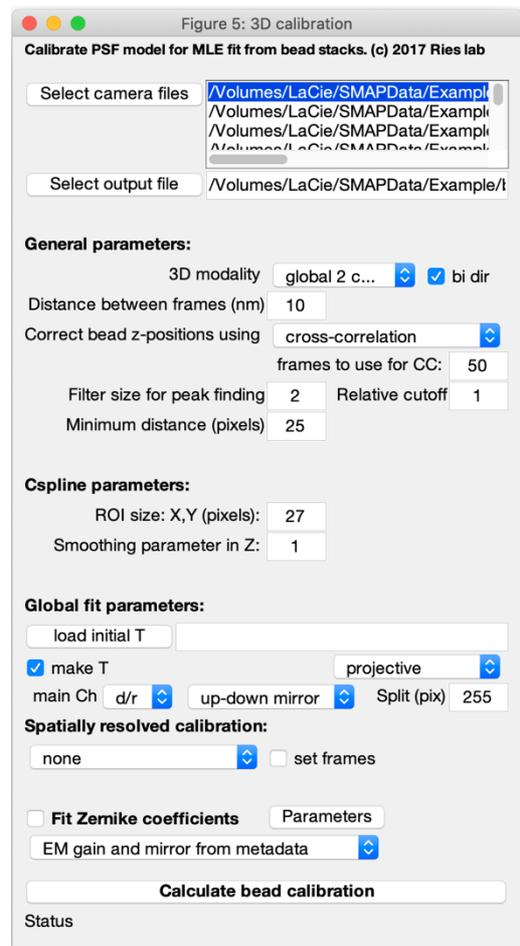

Figure 1: GUI to calibrate the experimental PSF model.
4. Set the parameters according to Figure 1.